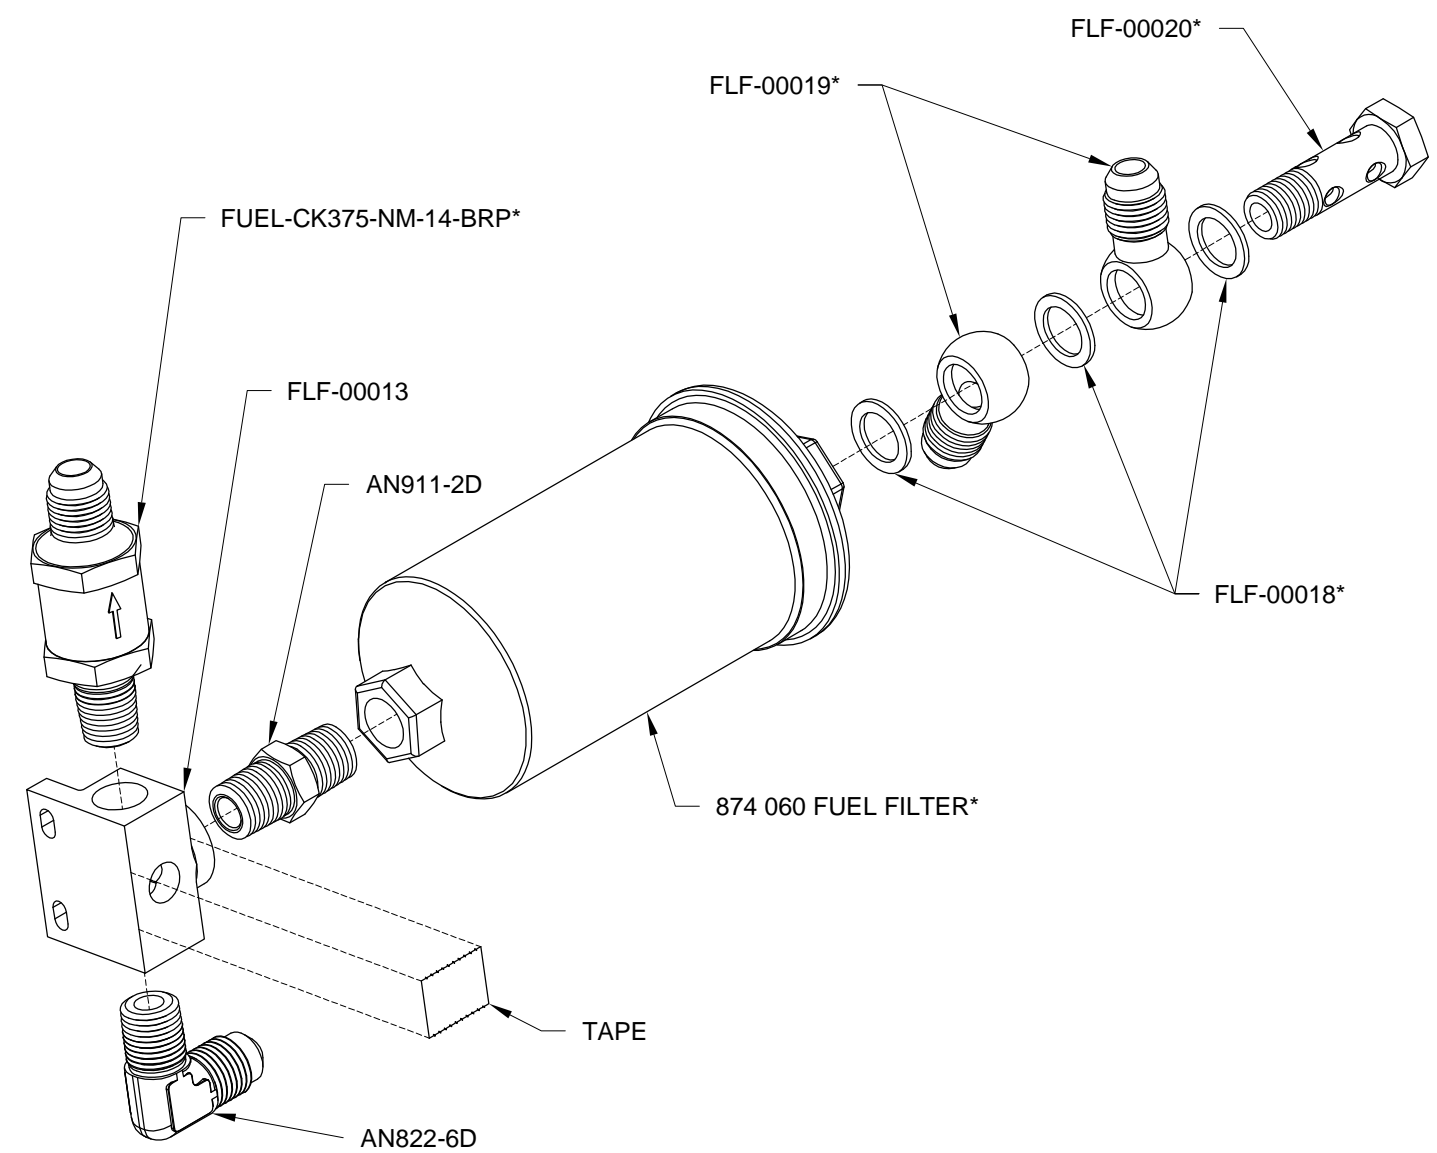

FIGURE 2: MAIN FUEL FILTER ASSEMBLY
Step 2: Assemble the 874 060*, FLF-00018*, FLF-00019*, FLF-00020* as shown in Figure 2.
Step 3: Assemble the fuel filter assembly, fluid fittings, FUEL-CK375-NM-14-BRP* (check the flow direction), and FLF-00013 as shown in Figure 2. Clock the elbow as shown.